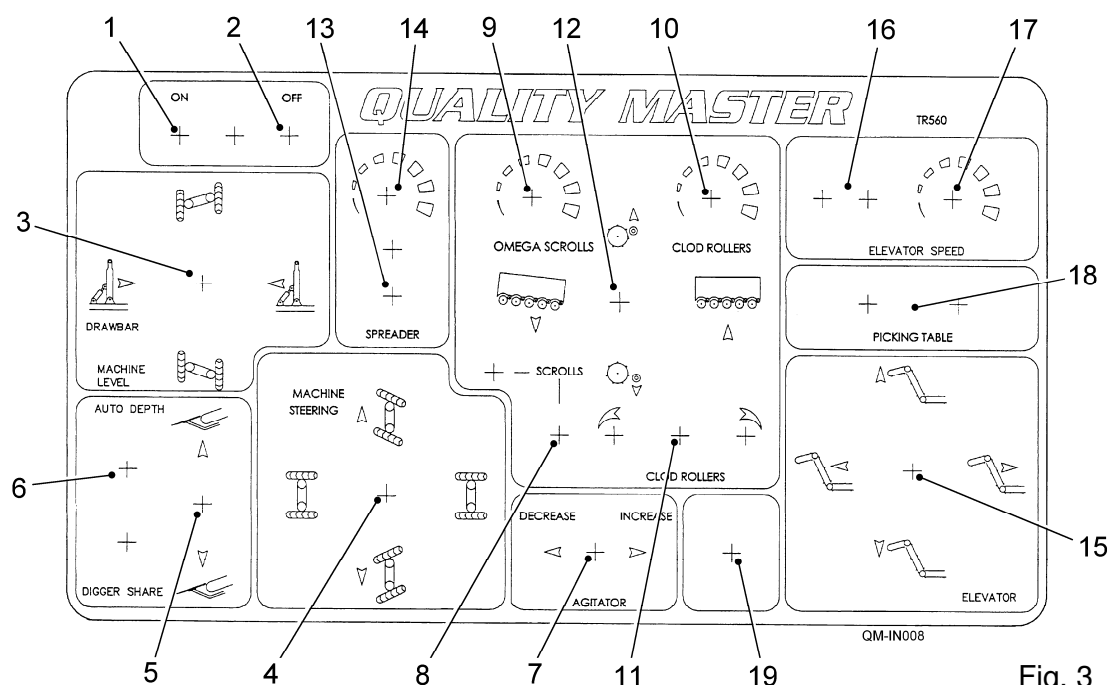

Fig. 3
The buttons (item 1 & 2, fig. 3) turn the control box ON and OFF. The adjacent LED will illuminate when the box is switched ON.
The joystick (item 3, fig. 3) controls the drawbar ram and machine levelling ram. The drawbar ram moves the front of the harvester to the left / right in relation to the tractor. The levelling ram raises / lowers the RH side of the machine.
The joystick (item 4, fig. 3) controls the wheel steering left / right and self-centring circuit. The angle of the wheels is displayed by the steering indicator (see fig **). To centre the wheels automatically, move and hold the joystick forward or backward (indicated by the symbols) until the wheels have returned to the centre (straight ahead) position.
The switch (item 5, fig. 3) raises / lowers the digger shares in and out of work. The switch (item 6, fig. 3) turns the automatic depth control ON / OFF.
The switch (item 7, fig. 3) is supplied when optional electric pitch adjustment is fitted to the main web agitators. The pitch adjustment raises / lowers the web relative to the agitators, thus controlling the amount of agitation applied to the main web.
The button (item 8, fig. 3) turns the Omega Separator unit ON / OFF. The dial (item 9, fig. 3) controls the speed of the scrolls, and the dial (item 10, fig 3) controls the speed of the clod rollers. The switch (item 11, fig. 3) reverses the clod rollers, and the switch (item 12, fig. 3) increases / decreases the angle of the Omega Separator unit.
The switch (item 13, fig 3) turns the star spreader unit ON / OFF. The dial (item 14, fig. 3) controls the speed of the spreader stars.
The joystick (item 15, fig. 3) controls the discharge elevator bottom section fold in / fold out function, and the top section (swan neck) raise / lower function.
The button (item 16, fig. 3) turns the discharge elevator web drive ON / OFF. The dial (item 17, fig. 3) controls the speed of the discharge web.
The switch (item 18, fig. 3) turns the picking table unit ON / OFF.
The communication buzzer (item 19, fig. 3) can be sounded by the operatives when a picking table unit is fitted to attract the drivers attention.